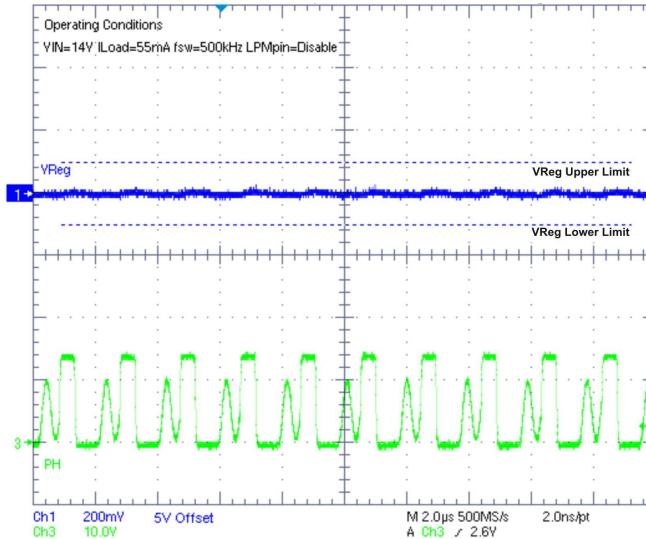

Figure 16. Active Mode DCM
The device enters in this mode of operation when LPM pin is set high (i.e disabled) and output loading is less than $I_{L_DISCONT}$. This mode of operation is shown in Figure 16.
- At nominal input voltages during very light output loading. This mode of operation is shown in Figure 19. Comparing Figure 16 and Figure 19, in both cases the device is operating in discontinuous conduction mode; however, pulse skipping happens in Figure 19 because of very light output loading for similar input voltage. LPM pin must be set high (i.e., disabled) for this to happen.